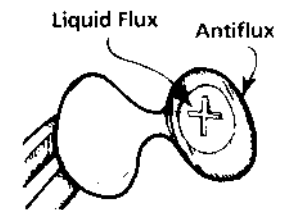

Fig. 3
3. Paint antflux around the periphery of the coping, and a small amount of Sigma-Low Flux in the area to receive the attachment (Fig. 3). Heat the coping to dry the flux.